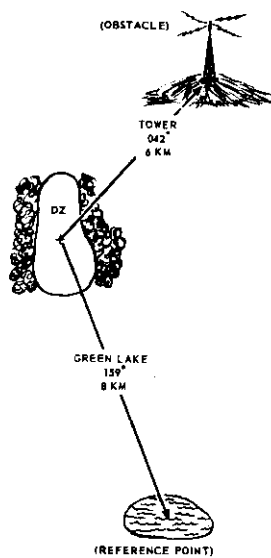
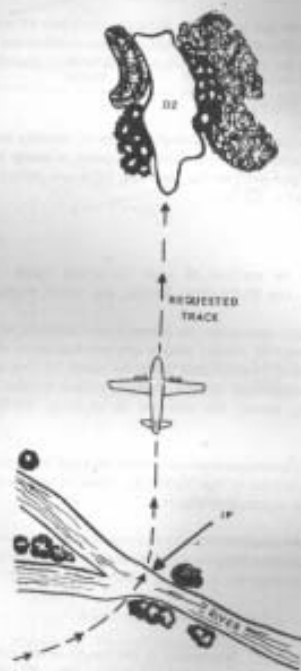

Figure 25. Reporting of obstacles and reference point.
Figure 26. Relationship between IP and requested track.
(5) Obstacles. Those that are over 300 feet in elevation above the level of the DZ, within a radius of 8 kilometers and which are not shown on the issued maps. Obstacles are reported by description, magnetic azimuth, and distance from the center of the DZ (figure 25).
(6) Reference point. A landmark shown on the issued maps, reported by name, magnetic azimuth and distance from the center of the DZ (figure 25). Used with (2) above in plotting the DZ location.
(7) Date/time drop requested.
(8) Supplies requested. Extracted from the catalog supply system.
b. Additional Items. In special situations, additional items may be required, e.g., additional reference points, navigational check points in the vicinity of the DZ, special recognition and authentication means. Subparagraphs (7) and (8) above are included only when requesting a resupply mission in conjunction with the reporting of the DZ.
d. Initial Points (IP's). It is desirable to reconcile the requested aircraft track with an identifiable landmark that may be used by the aircrew as an IP. The IP, located 8-24 kilometers from the DZ, is the final navigational checkpoint before reaching the target. Upon reaching the IP, the pilot turns to a predetermined magnetic heading that takes him over the DZ within a certain number of minutes (figure 26). The following features constitute suitable IP's:
(1) Coastlines. A coastline with breaking surf is easily distinguished at night. Mouths of rivers over 46 meters wide, sharp uprisings, or inlets are excellent guides for both day and night.
(2) Rivers and canals. Wooded banks reduce reflectings, but rivers more than 27 meters wide are visible from the air. Canals are easily recognizable from their straight banks and uniform width. Small streams are not discernible at night.